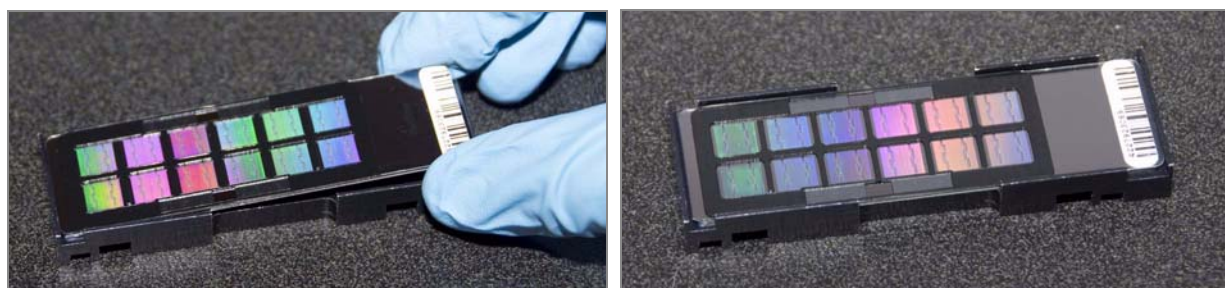

Figure 39 Placing BeadChips into Hyb Chamber Inserts
2. Place each BeadChip in a Hyb Chamber insert, orienting the barcode end so that it matches the barcode symbol on the Hyb Chamber insert (Figure 39). Make sure you place each BeadChip into the Hyb Chamber insert prior to loading the DNA sample.